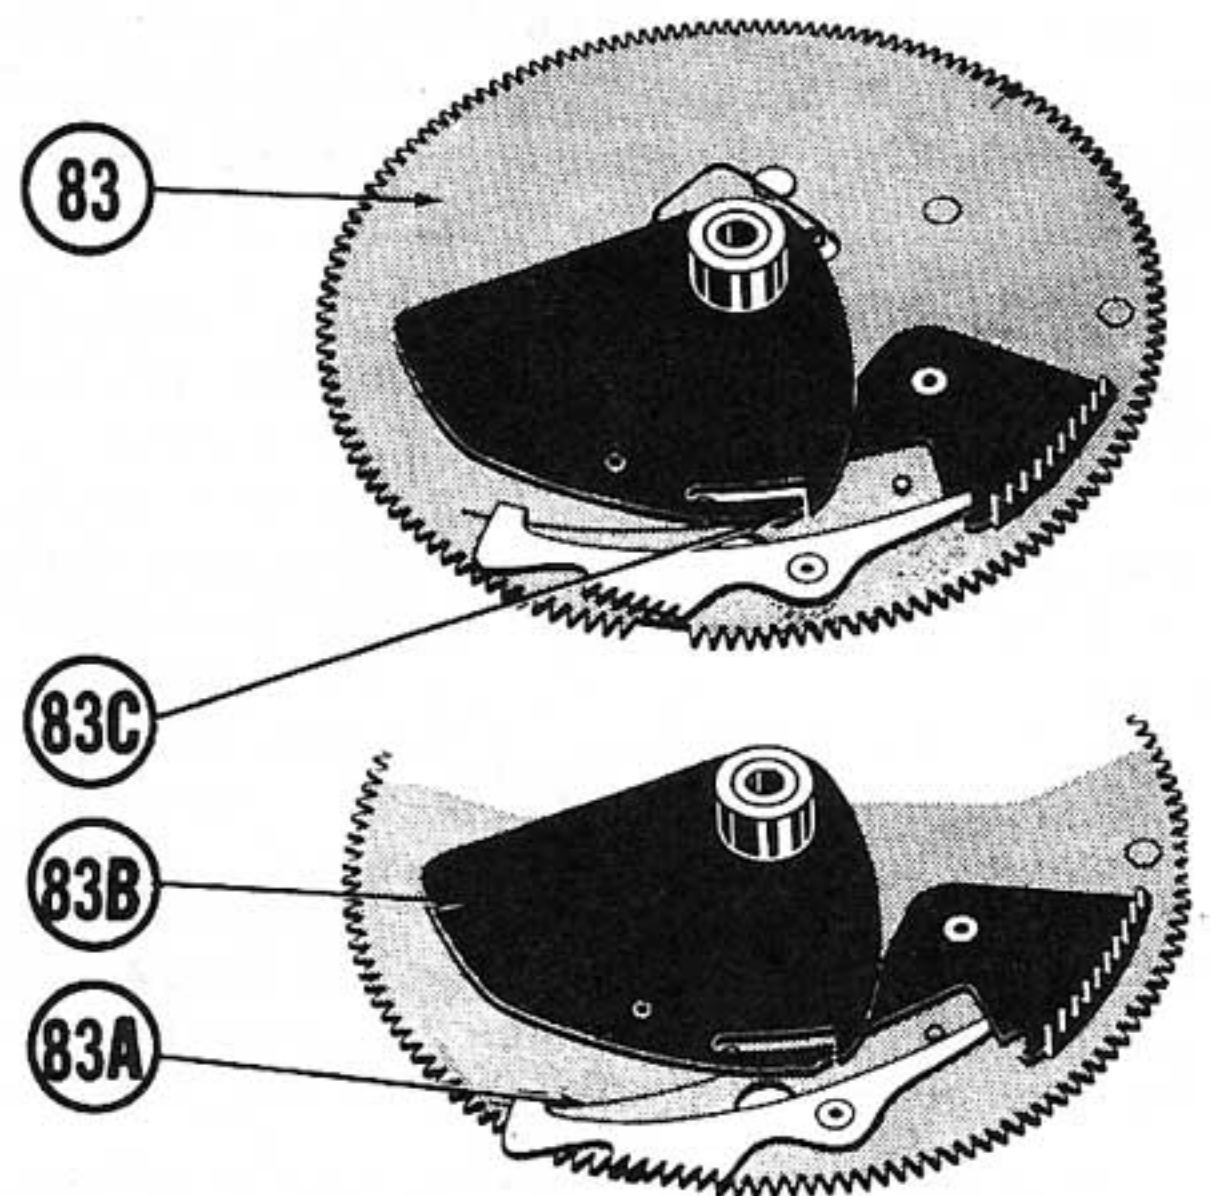

FIG 3. TOP VIEW OF TOOTH GEAR
After record has fallen, tone arm swings toward the inside by means of conveyor lever (82), moving cam (83B) so the needle is poised directly over the starting groove. In this position, the tone arm is lowered onto the record. Cam (83B) has an adjustment plate with which the point of the engagement can be changed (see Fig. 3).